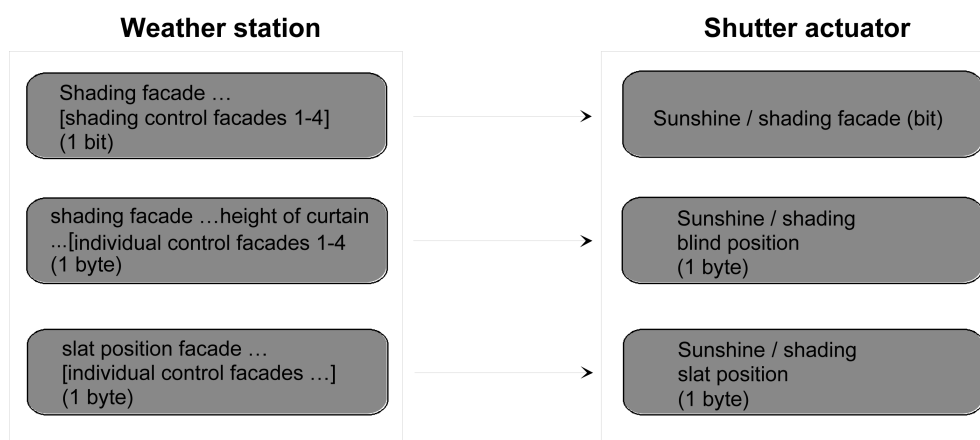

Figure 30: Programming of the communication objects for application example IV
- reaction at the beginning of sunshine / shading = variable blind position, variable slat position.(figure 30)